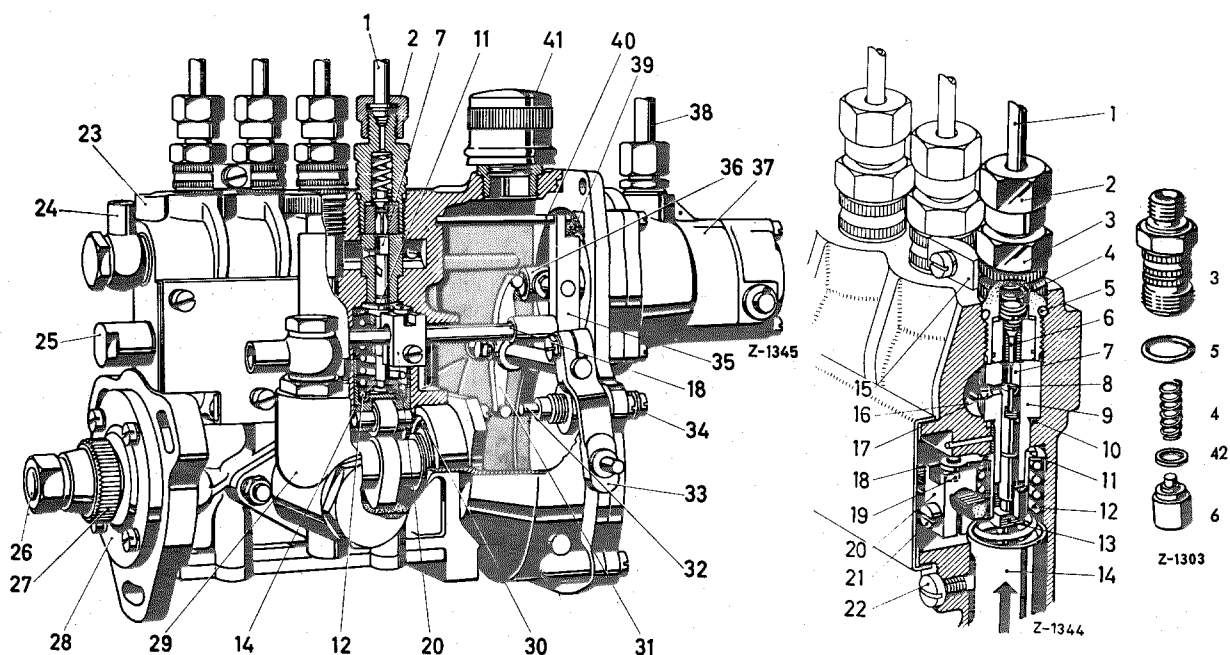

Fig. 07-10/1
For engines of type OM 621 it is recommended to replace the sealing rings (42) between the pipe connections (3) and the pressure valve holders (6) if there are complaints about too heavily knocking combustion noises under thrust or when the engine is shaking while idling and at lower speed range. Such irregularities may be the consequence of too heavily tightened clamping jaws (15) of the injection pump, which will warp the pipe connections (3) in such a manner that the sealing rings (42) no longer seal cleanly (refer to Fig. 07-10/1). Because of such inefficient sealing the diesels fuel may fill the pump housing, run beyond the overflow and will then reach the governor vacuum chamber and prevent the control rod from attaining full idling speed position under thrust.
1. Loosen fastening screws of clamp jaws (15), remove clamp jaws and wash injection pump at pipe connections thoroughly with gasoline (Fig. 07-10/1).
2. Unscrew pipe connection (3) from cylinder 1 with rubber sealing ring (5) and remove valve spring (4).
**Note:** The injection pumps of engine types OM 636 do not yet have the rubber sealing ring (5).
3. The pressure valve holder with pressure valve (6) and copper sealing ring (42) (Fig. 07-10/1).
5. Clean seat of pressure valve holder. Place new rubber seal (42) on pressure valve holder and insert together with pressure valve into injection pump (Part No. of copper seal of injection pump of engine type OM 621 001 997 34 40, type OM 636 000 997 23 40).
6. Set valve spring (4) on pressure valve (6). Slide a new rubber sealing ring (5), part No. 001 997 50 40 on pipe connection (3) and screw pipe connection down (injection pumps of engines OM 636 do not have rubber sealing ring [5]).